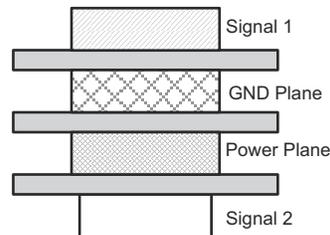

Figure 11-1. Four-Layer Board Stackup
- Due to high-frequency signals, a printed-circuit board with at least four layers is recommended; two signal layers separated by a ground and a power layer as shown in Figure 11-1.